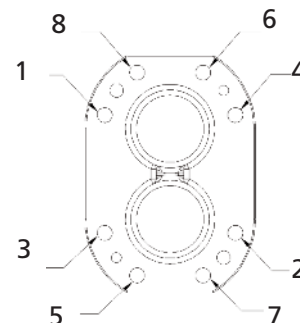

Figure 10. Bolt tightening sequence
DISASSEMBLY (REF FIG.10 FOR NUMBER)
- Slide the cover over the dowel pin and replace the screws. Alternate tightening screw from top to bottom and side to side (Check fig 10)